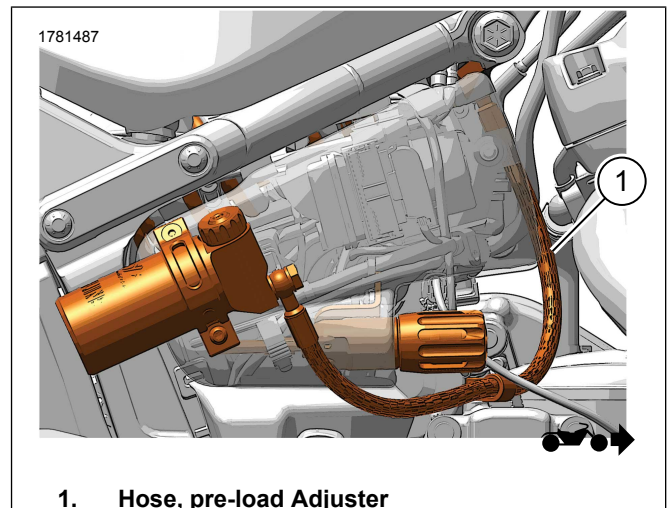

Figure 3. Route Pre-Load Adjuster Hose
2. Figure 3 Slide clip(1) to **new** pre-load adjuster bracket (4).
3. Install pre-load adjuster bracket screw (2) and washer (3). Tighten.
2. Figure 3 Install pre-load adjuster (5) to pre-load adjuster bracket (4) with screws (6). Tighten.